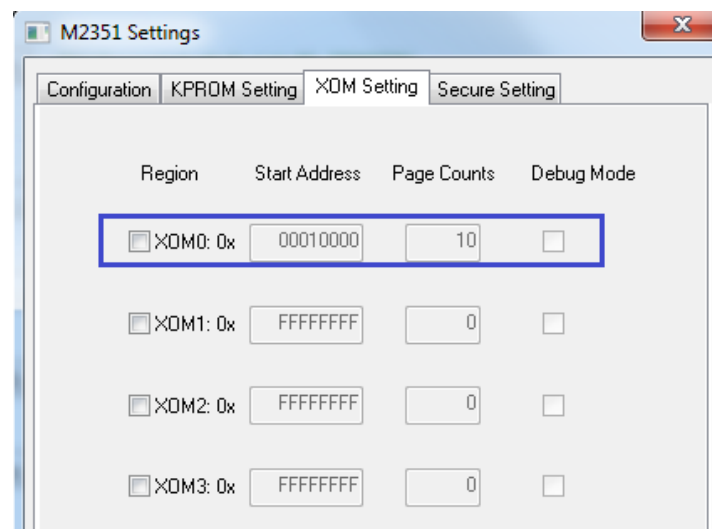

Figure 4-5 Check XOM Status
10. Click “Refresh” and then re-enter “XOM Setting” page to check XOM configure status, as shown in Figure 4-5.